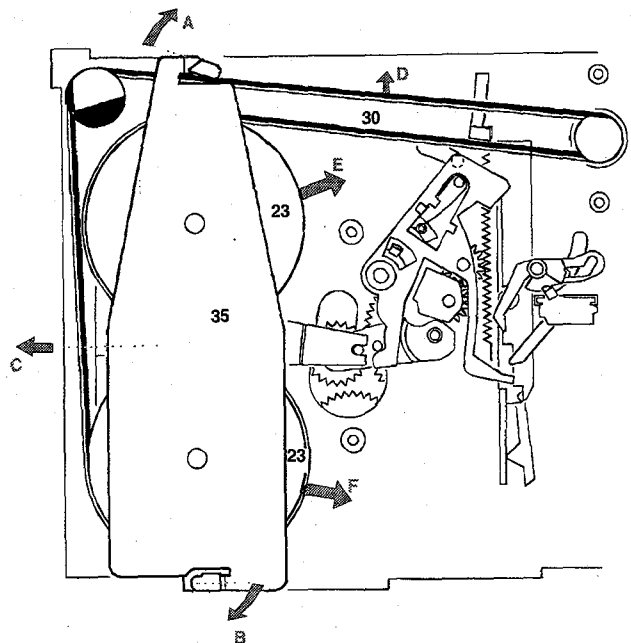

Fig. 5
- 7.1 Release pivot plate (35) by turning the plastic hooks acc.fig.5-A,B